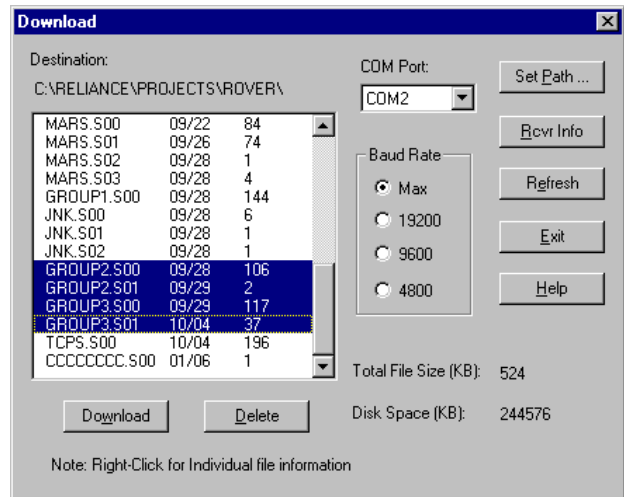

Figure 5. Sample file selection from the “Download” window.
- Select the file(s) you would like to have downloaded and click on the “Download” button (Figure 5). The “Set Path...” button can be selected to view and alter the pathname of